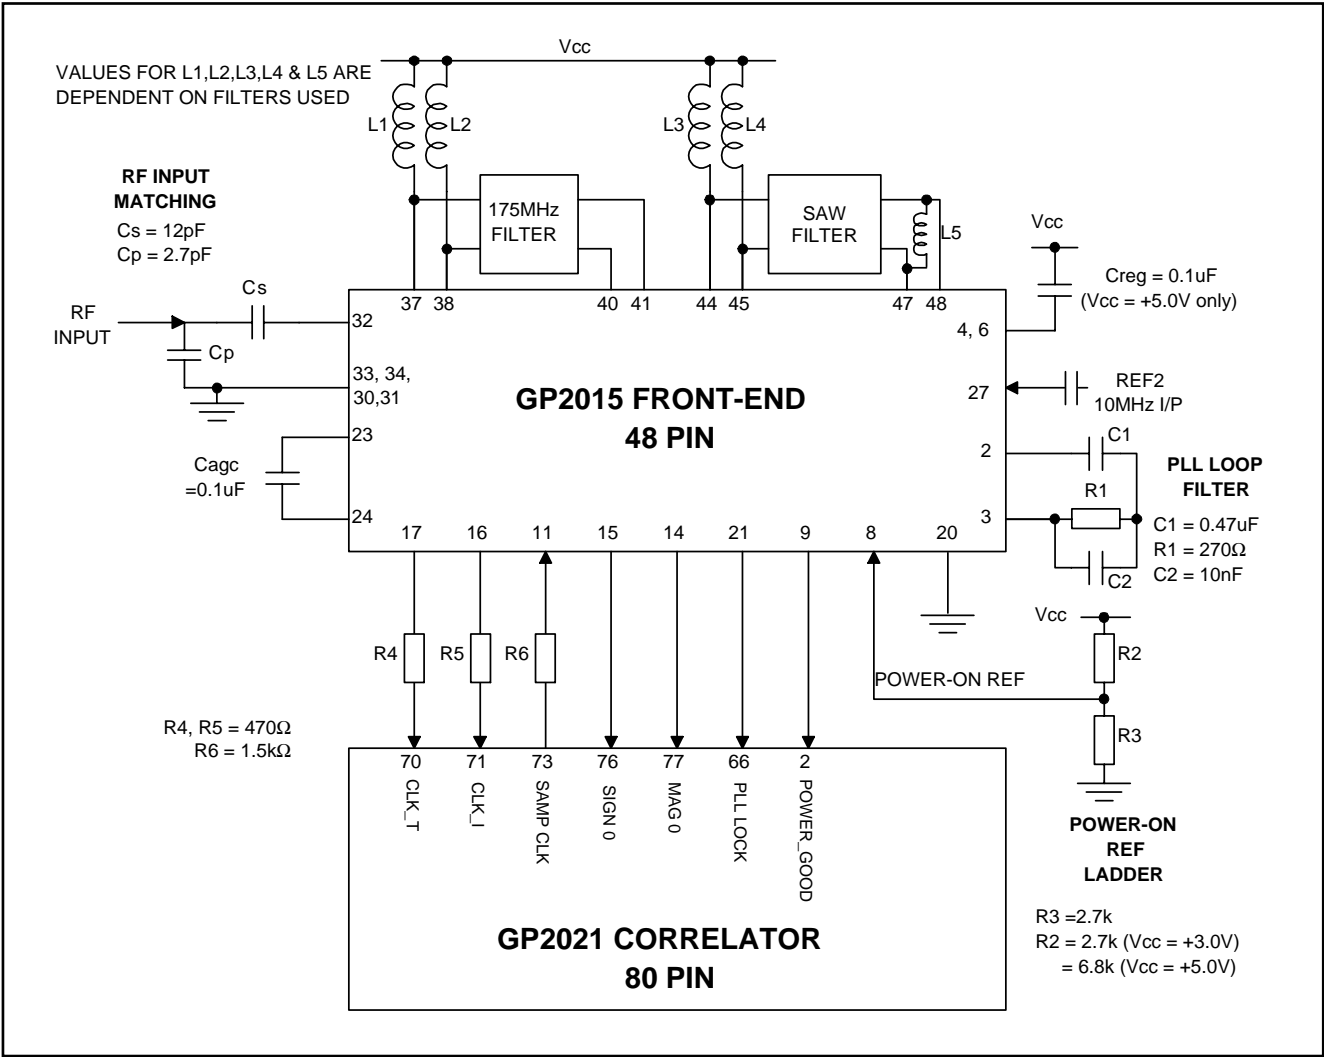

Figure 4 - GP2015 typical application
A typical application circuit is shown in figure 4 with the GP2015 front-end interfaced to the GP2021 12-channel correlator integrated circuit. The RF input has an unmatched input impedance (see page 4). The RF input matching components C_s and C_p should be mounted as close to the RF input as possible: also the V_{ee} (RF) tracks must be kept as short as possible. A SAW filter may be used as a 175.42MHz filter, but this can be replaced by a simpler coupled-tuned LC filter if there is no critical out-of-band jamming immunity requirement. The DC bias to mixer 1 is provided via inductors L_1 and L_2 , which may form part of the 175.42MHz filter. The output of mixer 2 requires an external dc bias, achieved with inductors L_3 and L_4 , which also serve to tune out the input capacitance of the 35.42MHz SAW filter. The output of the SAW filter is tuned with inductor L_5 . Capacitor (C_{agc}) determines the AGC time-constant. The PLL loop filter components are selected to give a PLL loop bandwidth of approximately 10kHz. The IF Output is normally used for test-purposes only, but is available to the user if required. Typically a low noise preamplifier (gain $> +15dB$) is